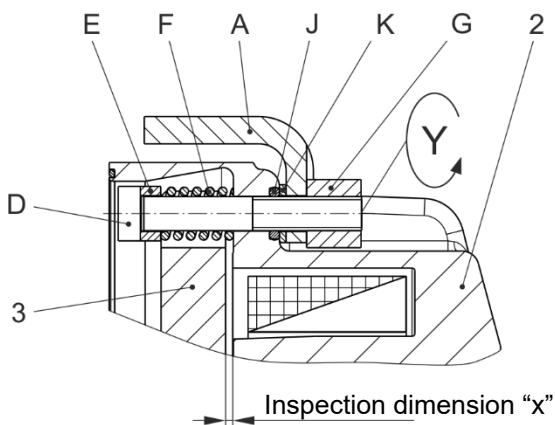

Fig. 3 (Size 250 / Type 891...1)
- Put the pressure plates (E) and then the thrust springs (F) onto the cap screws (D).
- Push the cap screws (D) with the pressure plates (E) and thrust springs (F) from the inside (you should be facing the armature disk (3)) into the hand release bores in the coil carrier (2).
- Only on hand release IP66, Type 891. _ _ _ .1 (Figs. 3 and 4):**